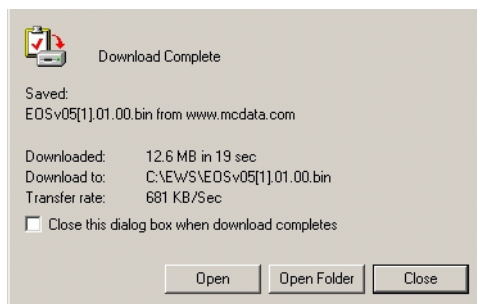

Figure 4-40 Download Complete Dialog Box
11. The *Download complete* dialog box displays (Figure 4-40) with a progress bar that shows percent completion of the firmware version download.